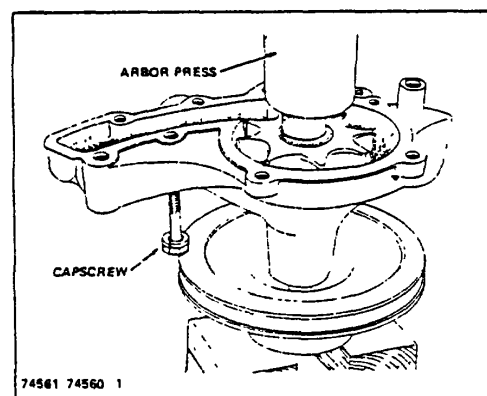

Figure 2-4. Water Pump Assembly Showing Inserted Capscrew, Prior to Pulley Press Fit.
2. Insert capscrew in pump body BEFORE crossing pulley on to shaft (Figure 2-4). Coat